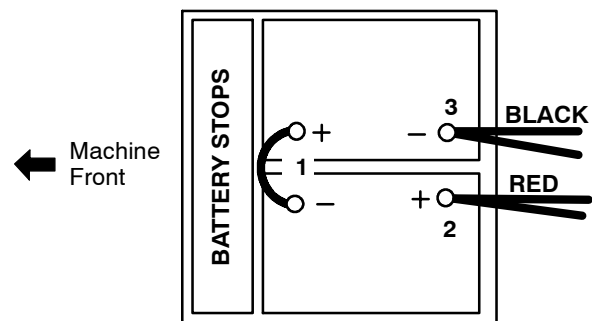

FIG. 2
2. Carefully install batteries into battery compartment tray with battery posts positioned as shown. Secure batteries with battery stops (Figure 2).
5. Connect cables to battery posts in numerical order as labeled, RED TO POSITIVE & BLACK TO NEGATIVE, use battery post covers and rubber boots supplied (Figure 2).